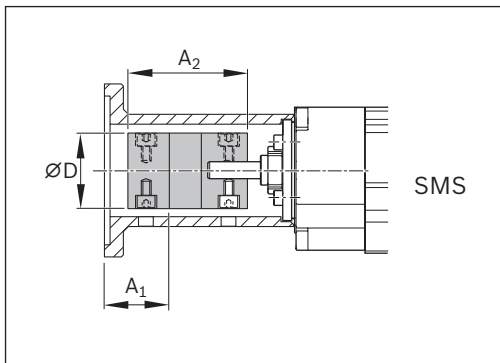

Fig. 9: Dimensions  $A_1/A_2/D$
1. Push the flange (1) into/onto the locating feature on the product and screw it down onto the end block (3) using screws (2).
2. Insert coupling (4) into the flange on the screw journal (5) of the product and set dimension  $A_1$  ➡ Fig. 9 and Table 5.
3. Tighten the screws (6) of the coupling.
4. Push the motor into the locating feature of flange and coupling and fasten with screws (8) and washers (9).
5. Tighten the screws (7) of the coupling.
6. Mount the flange cover panels (10).